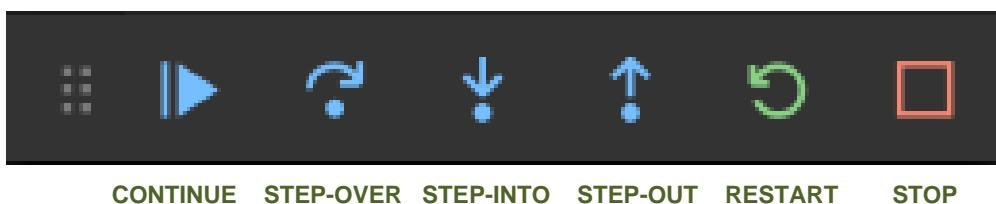

Figure 47. Debugging tools
5. To control your debugging session, you can use the debugging toolbar that appears near the top of the editor (see Figure 47). Below are the options: